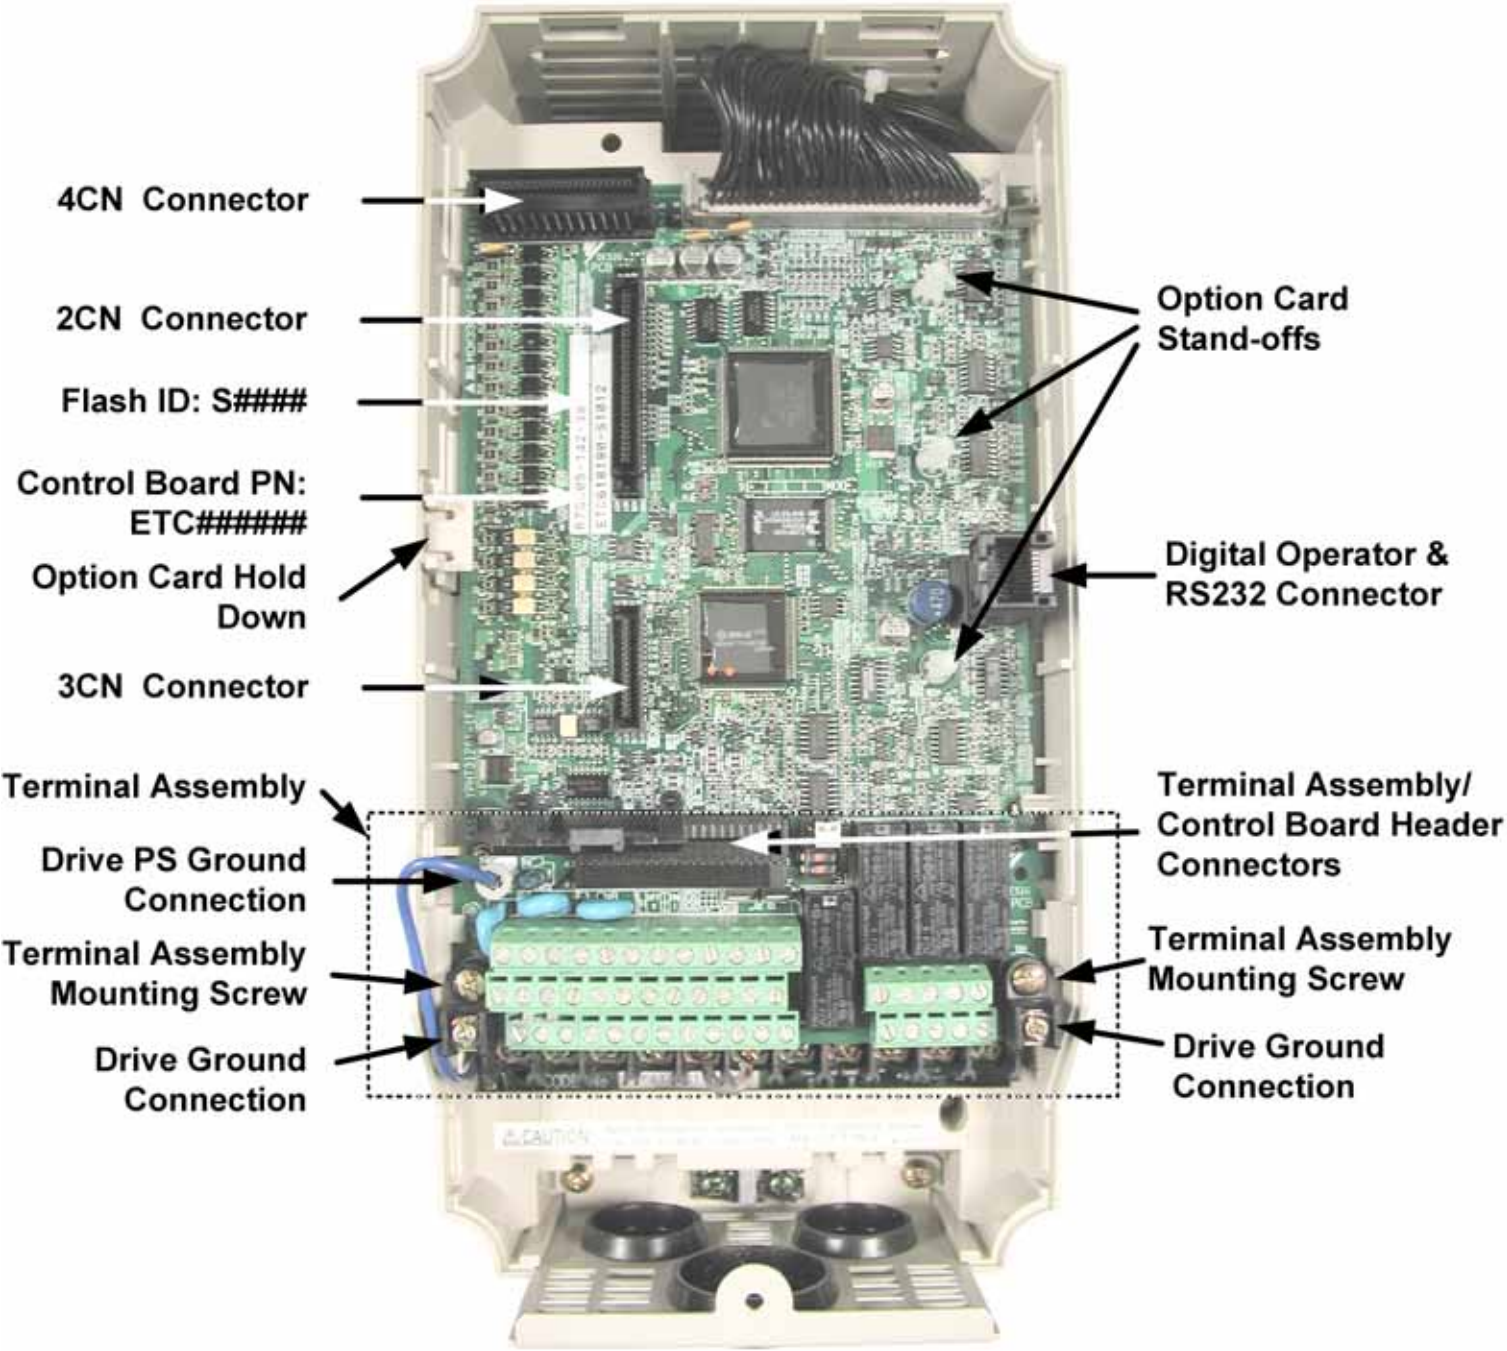
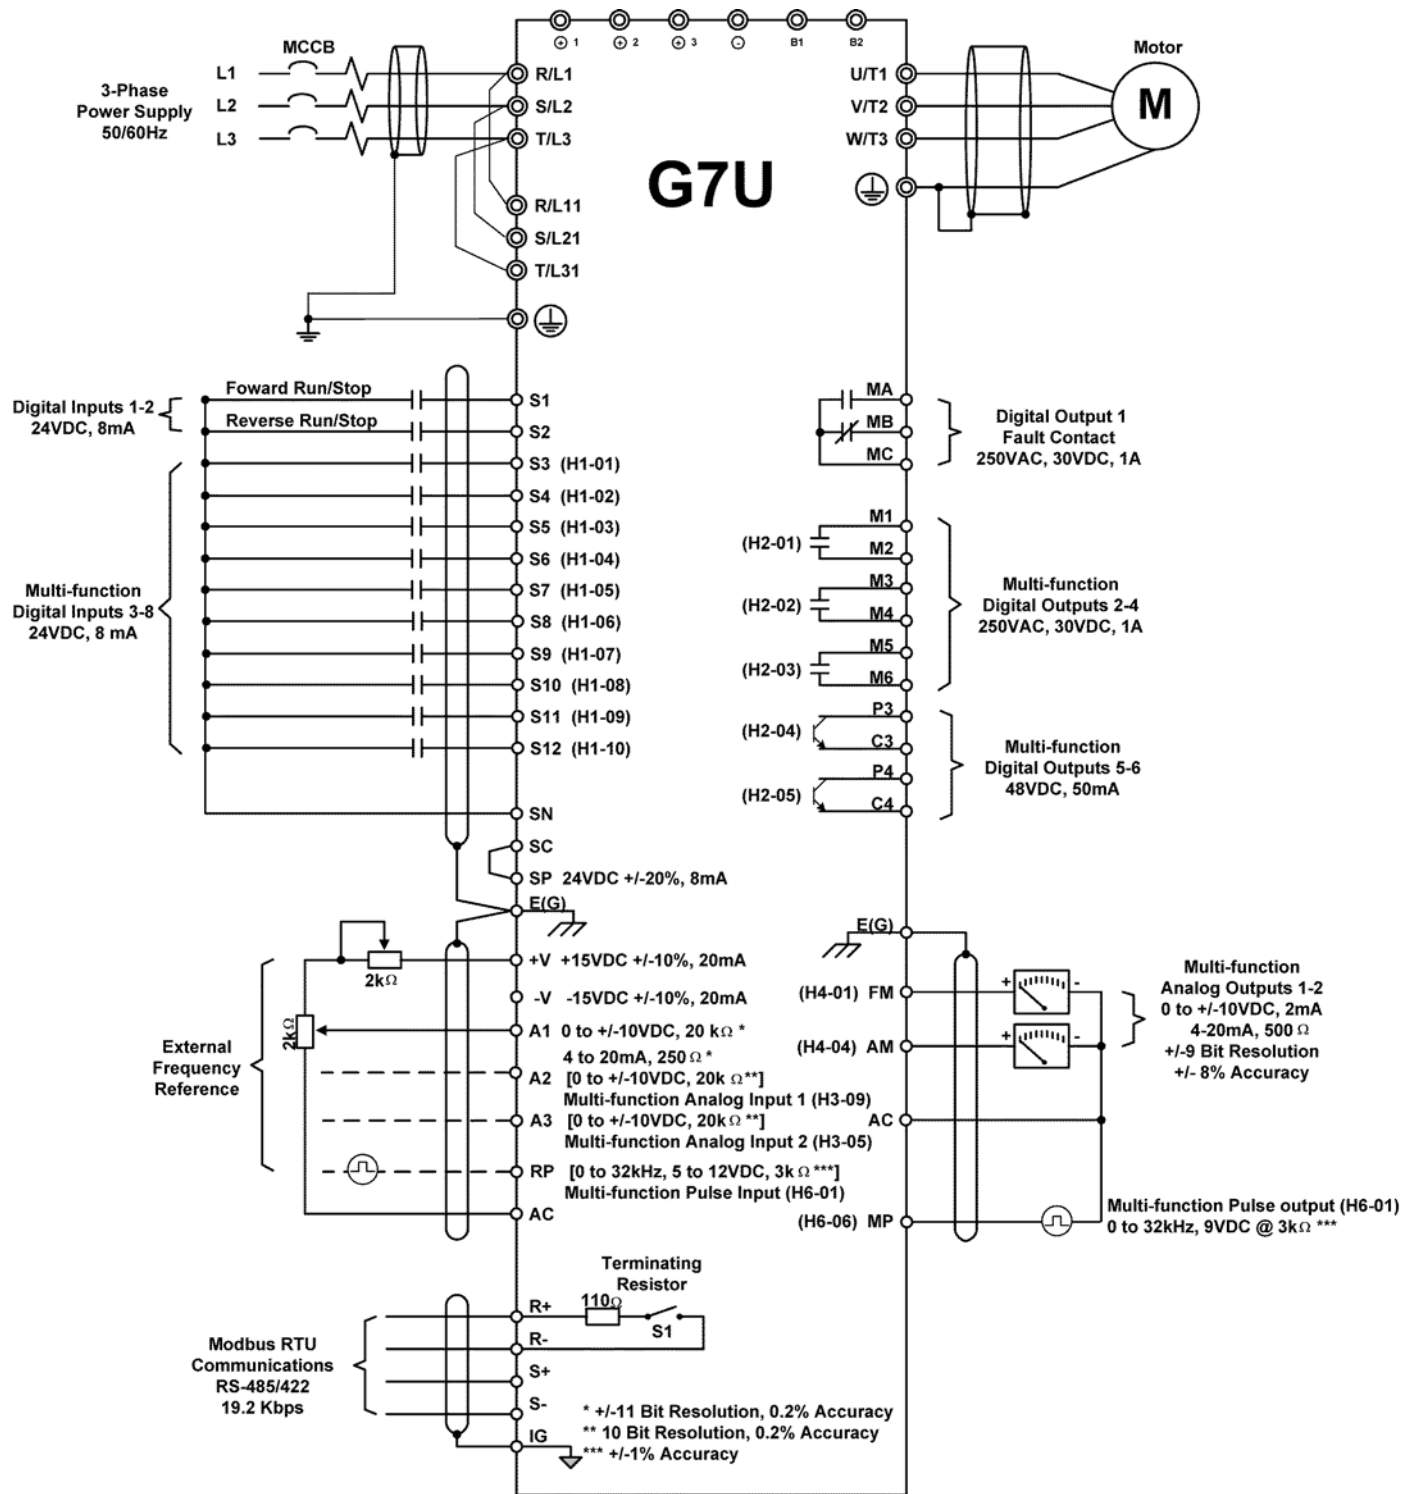

Figure 1.1 G7 Connection Diagram
Figure 1.2 G7 Drive Connections
- 4.2:** Connect the RJ-45 port on the front of the G7 drive to the controller serial port. Refer to *Figure 1.1 - G7 Diagram* for the location of drive connectors. Use a DB9 to RJ-45 adapter with a standard Ethernet CAT-5 patch cable or use Yaskawa cable UWR00468-2. **Do NOT connect this cable to an Ethernet port** on the controller, as damage to the controller and/or G7 drive may result. Refer to *Figure 1.2 – RS-232 Connections* for a description of the interface cable.